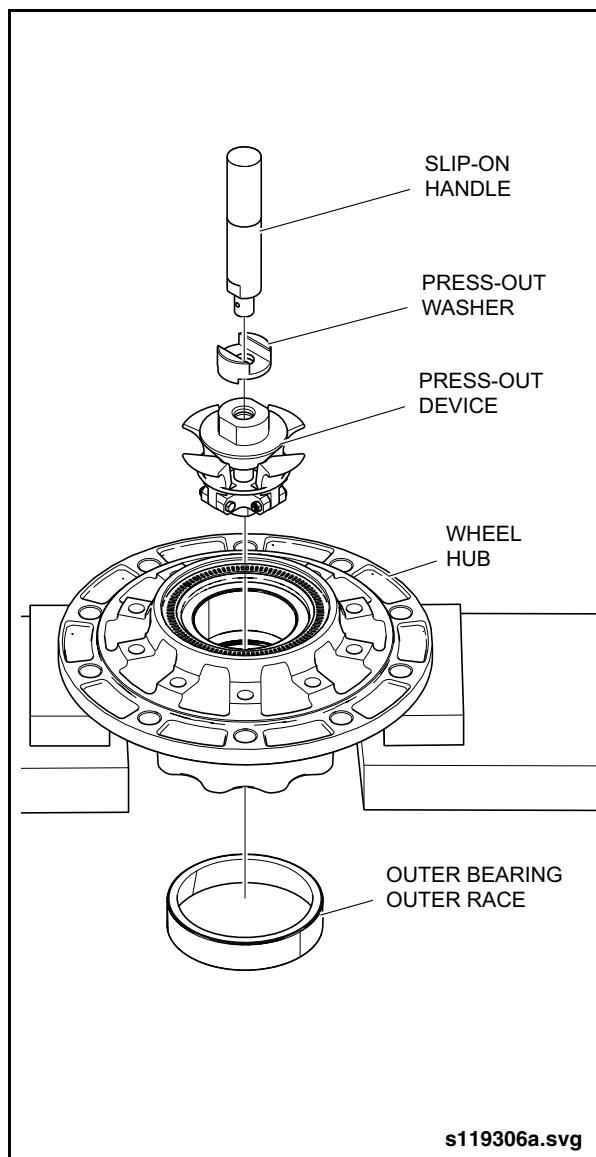

Fig. 2-20: Removing Outer Bearing Outer Race
1. Insert the Press-Out Device (Item 17 from special tools list) into the wheel hub. See "Fig. 2-20: Removing Outer Bearing Outer Race" on page 23.